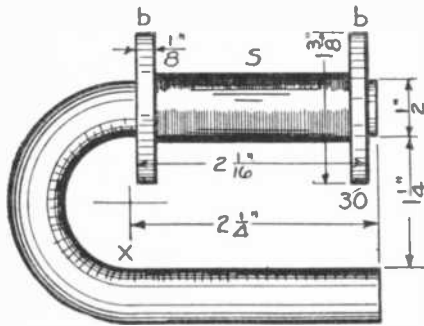

FIG. 1
be wired and modified for dry battery or storage battery current. Some experimenters have no access to 110 volts and operate their devices with low voltage sources. The switch at the top of Fig. 1 controls this low voltage or battery current, and can be considered the main switch. When this switch is in the left position, the lamp (L) is in series with the source and consequently the source of current at binding posts (E) will be that of the battery with a lamp in series with it. This is useful in testing.
Fig. 1 shows how the switchboard can
In order to have a north and south pole facing the armature the coils in Fig. 1 should be wound in the directions indicated above. Note that the two coils are oppositely wound.